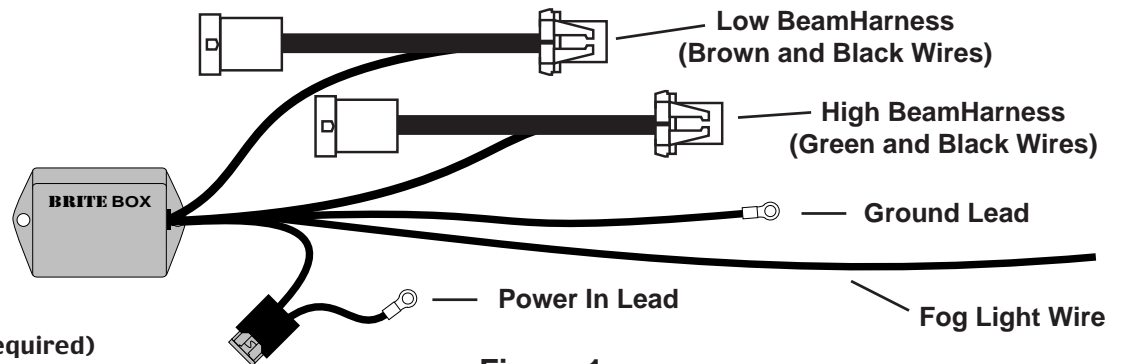

Figure 1
**STEP 2:** Find a suitable location to mount Brite Box on inner fender of vehicle. Make sure the low and high beam harnesses from Brite Box (see figure 1) can be run to the vehicle's headlight wires. The red wire (attached to fuse holder) of Brite Box must be able to reach positive (+) power lug near main underhood fuse box of truck.
**STEP 5: Route Brite Box's FOG LIGHT WIRE (see Fig. 1) to fog light on same side of truck where you installed Brite Box. This wire only needs to be connected to one fog light to work both of them. Make sure wires do not pass over any rough / sharp edges that can wear through the insulation and cause a short circuit over time. Use supplied cable ties to secure fog light wire in a neat and tidy manner.**